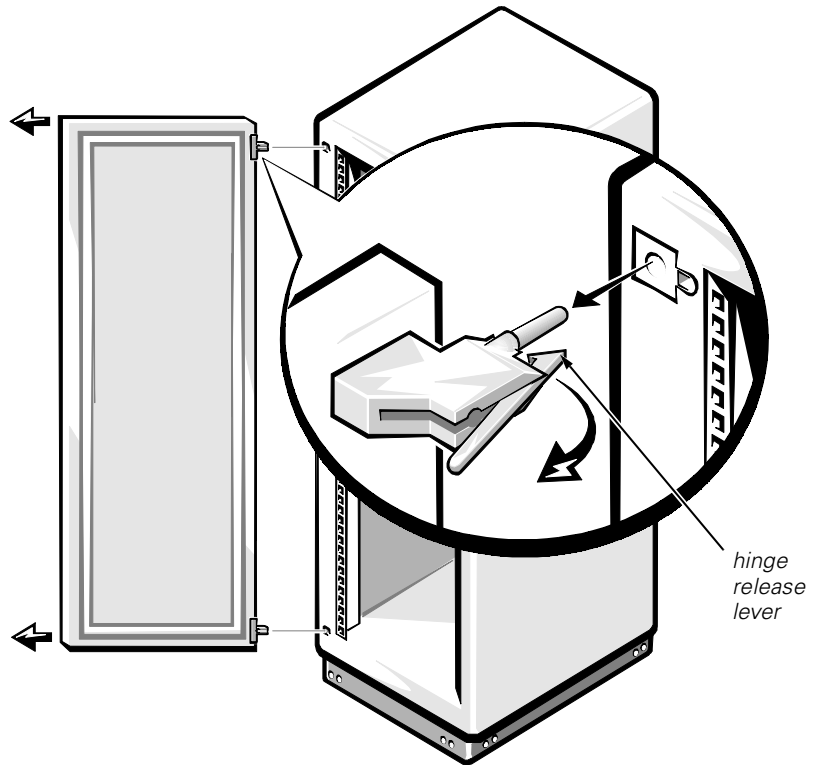

Figure 1-5. Removing the 42-U Rack Cabinet Doors
| Figure 1-5. Removing the 42-U Rack Cabinet Doors | 1-7 |
If you have a 42-U rack cabinet, perform the following steps (see Figure 1-5):
1. Lift the front door into position and align the hinges with the holes in the rack as shown in Figure 1-5.